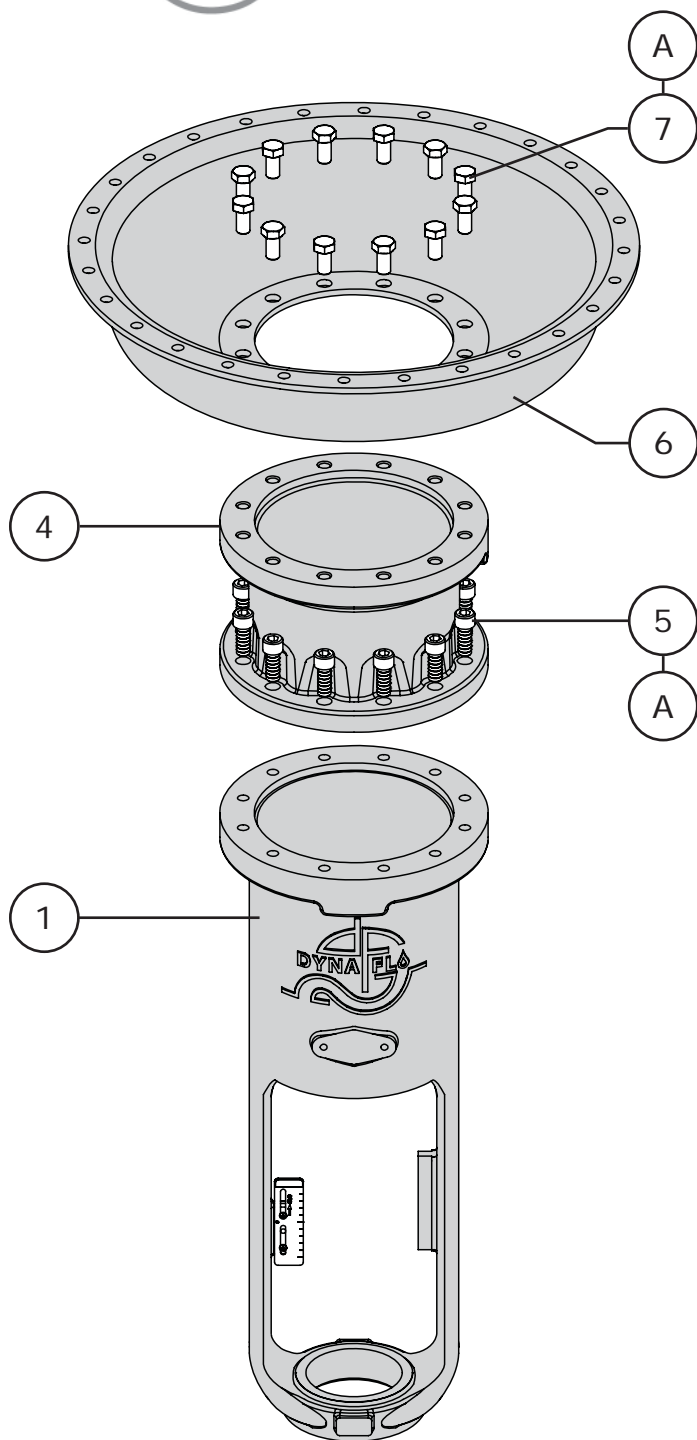

Figure 15 Lower Diaphragm Casing Disassembly
- 1 Place the spring case adapter (Key 4) on top of the yoke (Key 1) as shown in Figure 15. Make sure the NPT connection is to the right of the front of the yoke (Key 1).